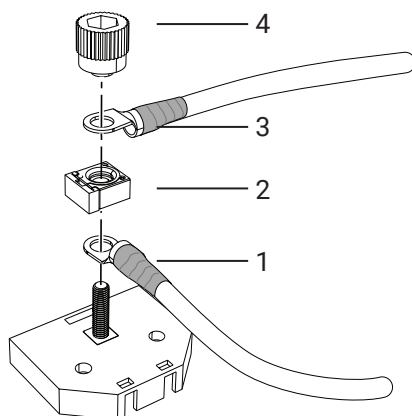
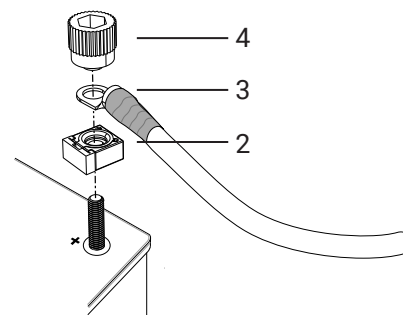

Figure 64. Connection to the fuse box
Figure 65. Connection to the battery's positive terminal
2. If applicable, ensure that the cab switch (CS) is in the "Off" position.
3. When using a fuse box, connect the cable (1) to the battery's positive terminal and to the fuse box and place the fuse (2) above, see Figure 64.
4. When connecting directly to the positive battery terminal, place the fuse (2) on the positive terminal, see Figure 64.
5. Connect the main power cable (3) to the fuse box / positive terminal, see Figure 64 - Figure 65.
6. Screw tight the cable connections and fuse with the knob (4). Install the cables at 90° or 180° from each other. Install the fuse at right angles to the cables; see Figure 64 - Figure 65.